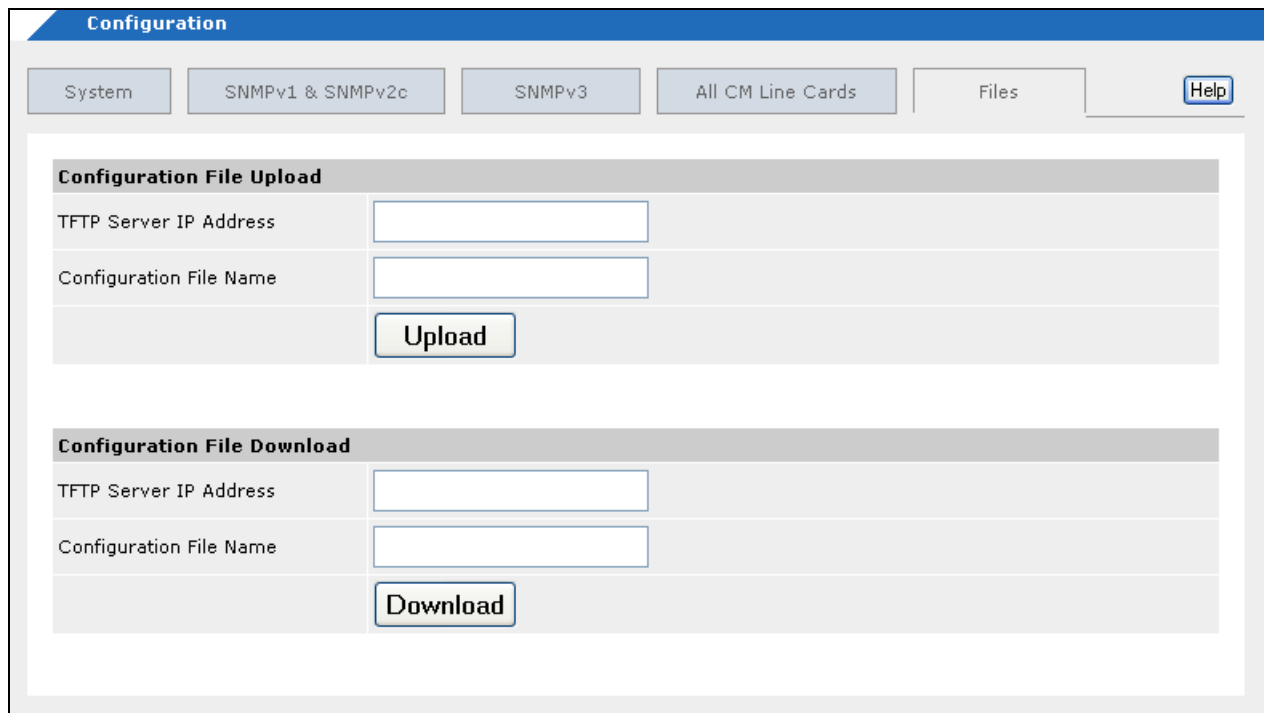

Figure 144. Files Tab
2. Click the **Files** tab, shown in Figure 144.